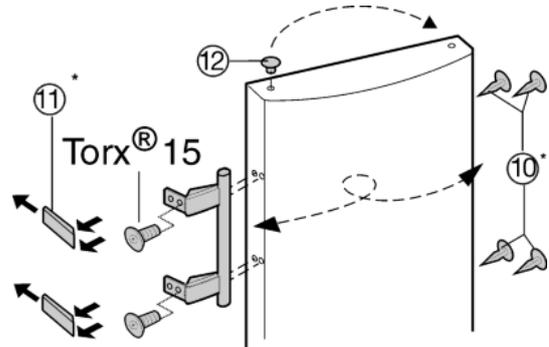

Fig. 7
- Lift the stopper Fig. 7 (12) out of the door bearing bush and transfer it.
- Detach door handle, stoppers Fig. 7 (10) and pressure plates Fig. 7 (11) and transfer to the opposite side.